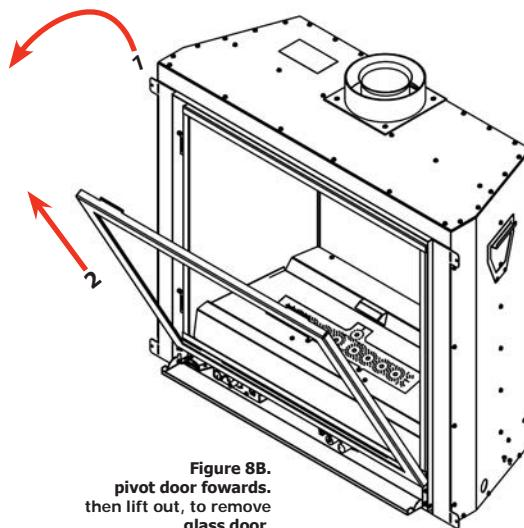

Figure 8B.
**Step 3.** Once released, pivot the door forward and pull it out of the bottom door retainers. The door must be angled in order for it to pull out. Fig. 8B